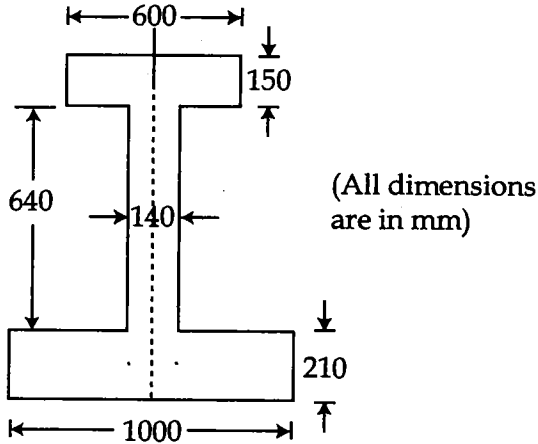

Fig. 4
- (b) Find the moment of inertia of the section shown in Fig.4. about a horizontal axis passing through the C.G. of the section. 10